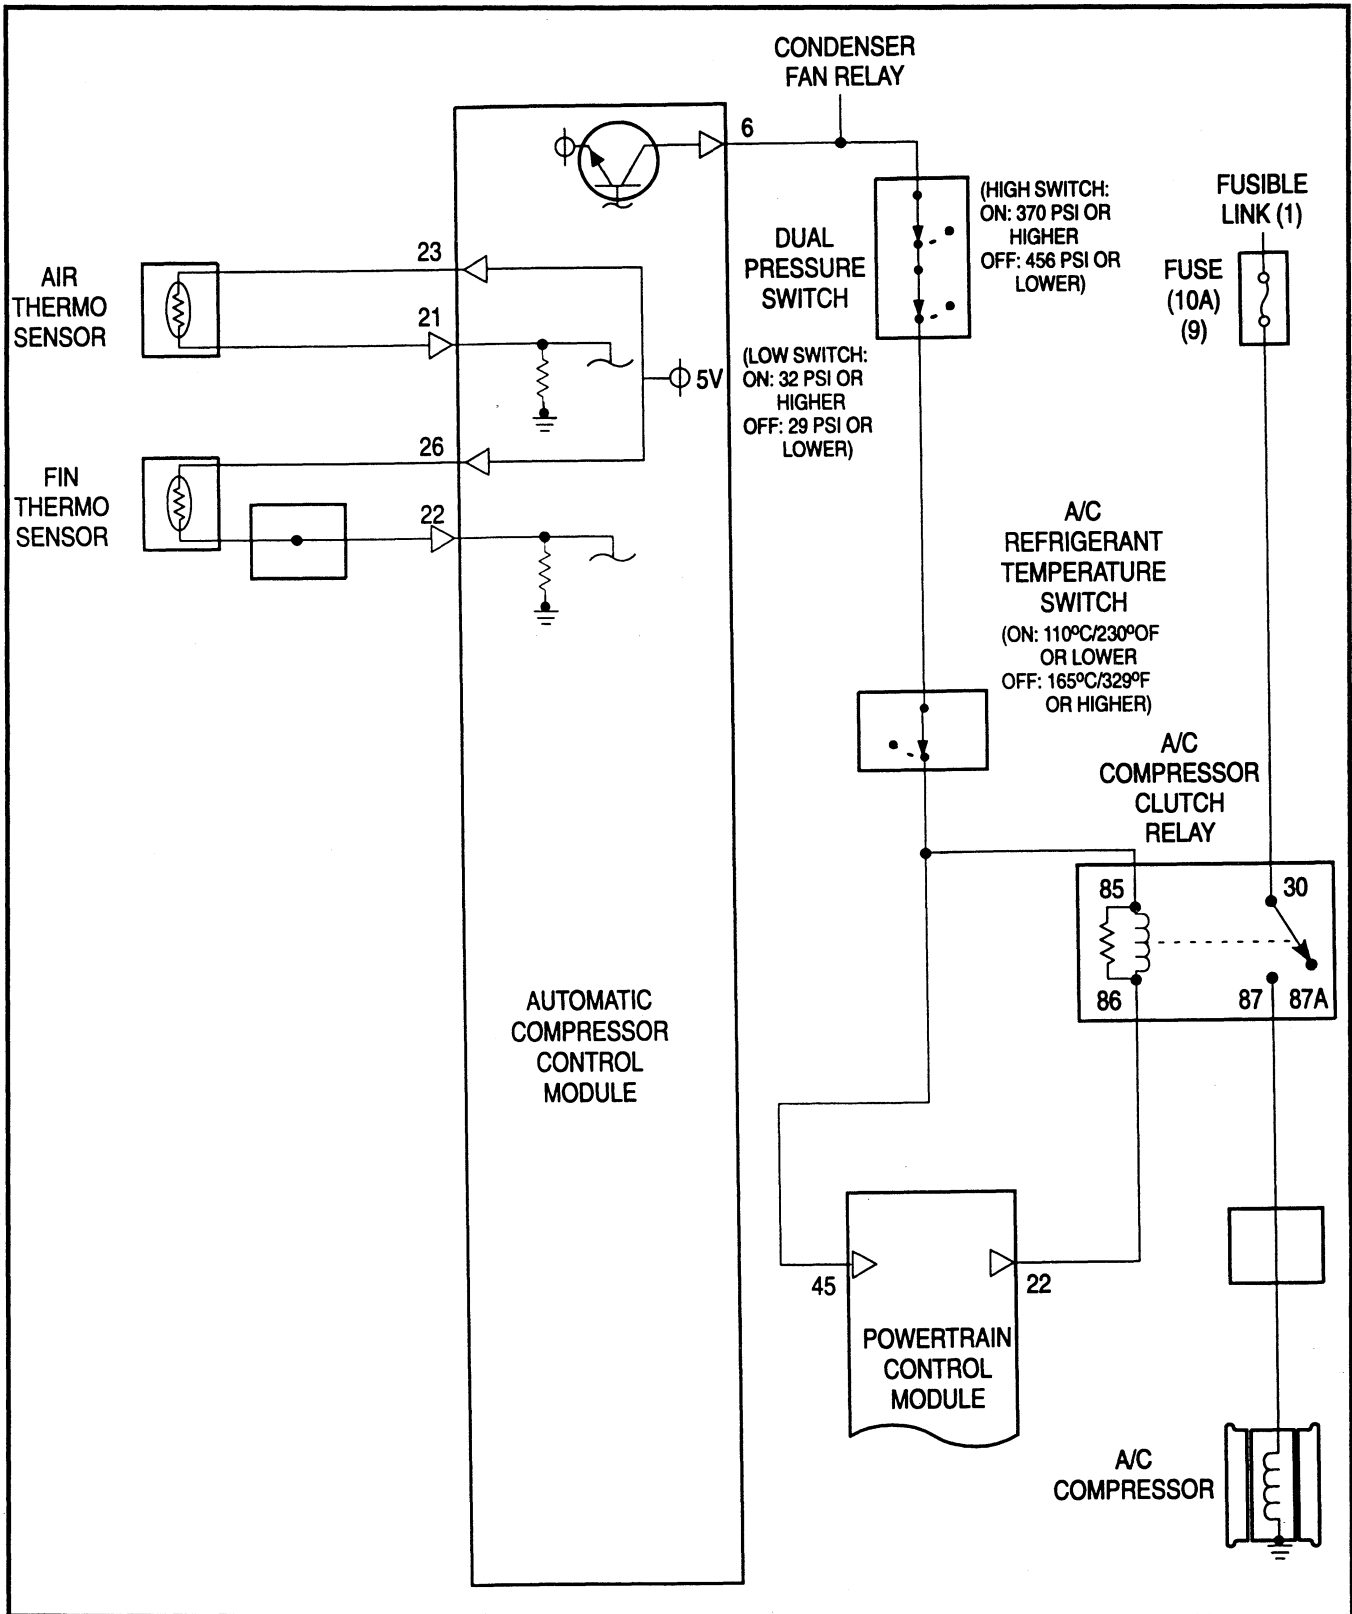

Figure 70 A/C Clutch Circuit
Like the radiator fan relays, the A/C clutch relay is located in the centralized junction under the hood. The ECM will supply a ground for the A/C relay on pin 22 (DG) (fig. 70). Relay operation is based upon inputs that the ECM receives from the air conditioning request circuit. The ECM energizes the A/C relay under the following conditions: